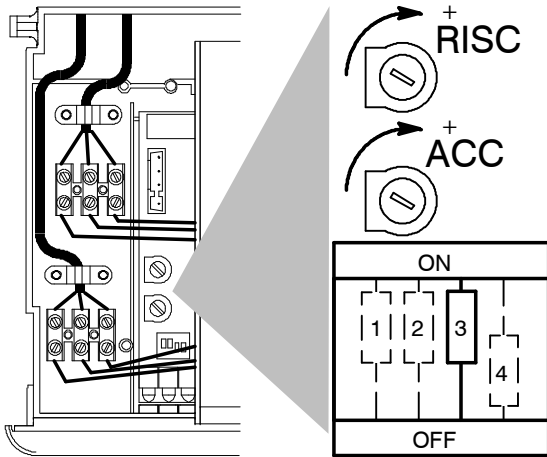

Fig. 7.7
- 14 Check the ignition gas pressure by setting dip-switch "3" (Fig. 7.7) to the OFF position. Compare the value on the gauge with the value indicated in the sections 4.5 or 4.6 (gas pressures at the burner), accordingly with the model of boiler installed.
- To adjust the ignition gas pressure, set dip-switch "3" (Fig. 7.7) to the OFF position and adjust potentiometer marked "ACC" with a screwdriver until correct ignition gas pressure is obtained.
With the boiler operating in c.h. mode, use a suitable screwdriver to turn the adjustment potentiometer marked "RISC" (Fig. 7.7).